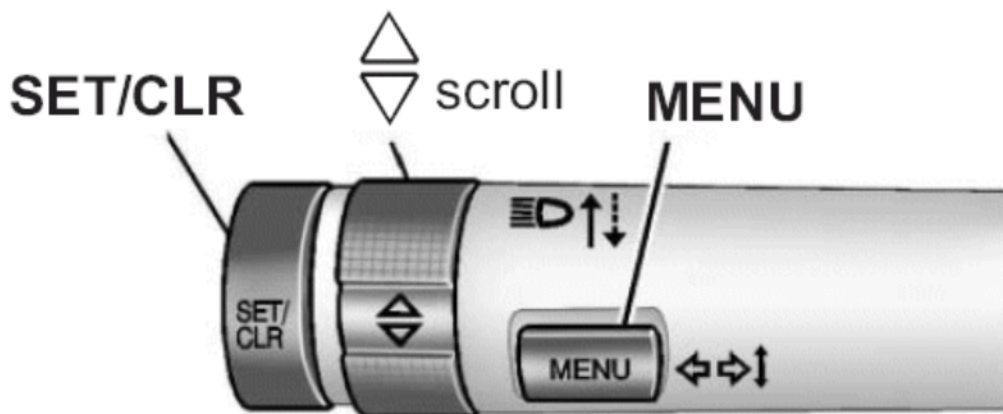

Fig. 5: Identifying DIC Controls (Turn Signal Lever)
4. Use the MENU button to select the VEHICLE INFORMATION MENU in the Driver Information Center (DIC). See **Fig. 5**.